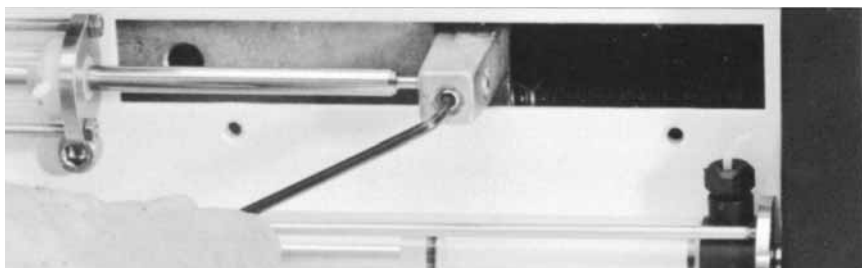

Fig 11. Disengaging the piston rod from the driving arm.
8. Disengage the piston rod from the driving arm by removing the stop screw with the Allen key supplied (see Fig 11).